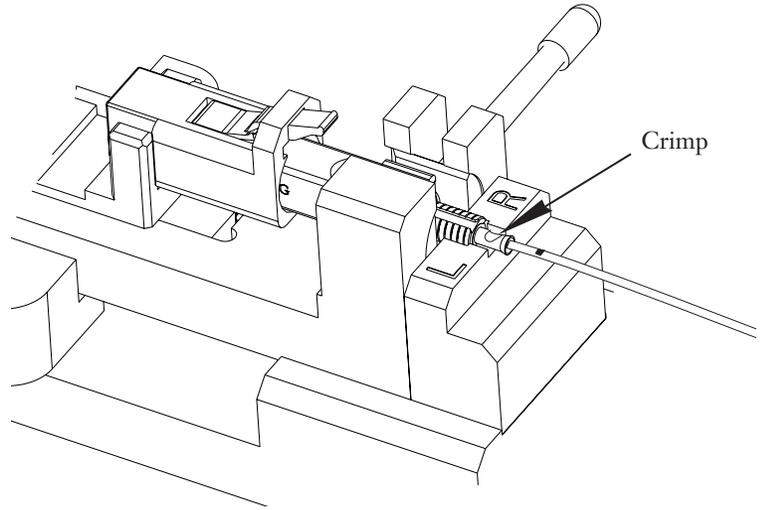

Figure 4-39
**4.8-6** Flip the crimp handle back. You should see a flat impression in the crimp tube, indicating a proper crimp (Figure 4-39).